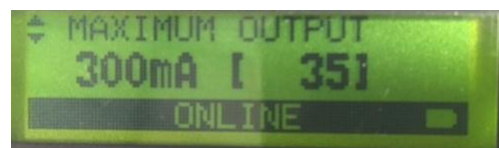

FIGURE 3
6. Using the controller, press the down arrow until you get to "MAXIMUM OUTPUT." Press the unlock button, and then use the down arrow to adjust the mA value to 300mA. **See Figure 3.**